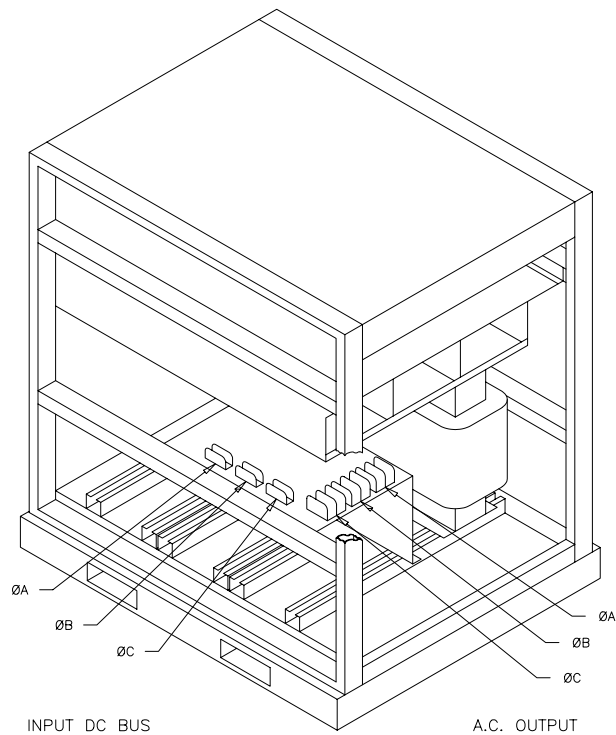

Figure 7-2: Fuse Locations
11. Check the input and output fuses associated with the failed amplifier. They may have blown open and must be replaced. Refer to Figure 7-2.
See Table 7-2 and Figure 7-2 for replaceable fuses and ratings for each of the sub assemblies in the FCS Power source.